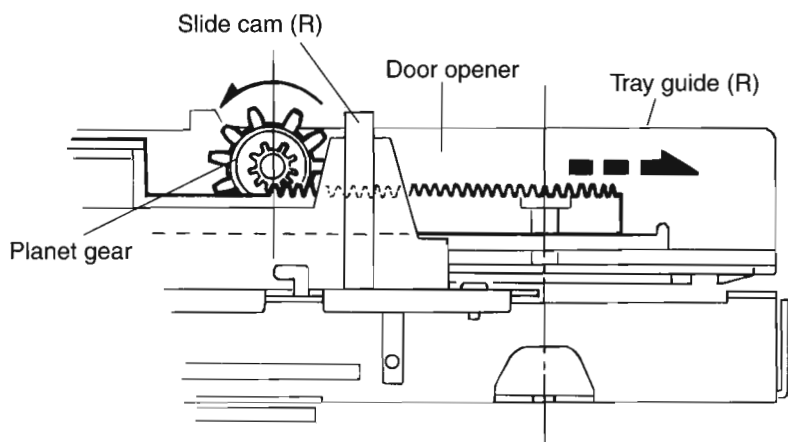

Fig. 6
■ Removing the spindle motor assembly (see Fig.6 to 9)
- : After aligning the slide cam R as shown in Fig. 6 (see Removing Step", mount the top cover and fix the mechanism with screws.